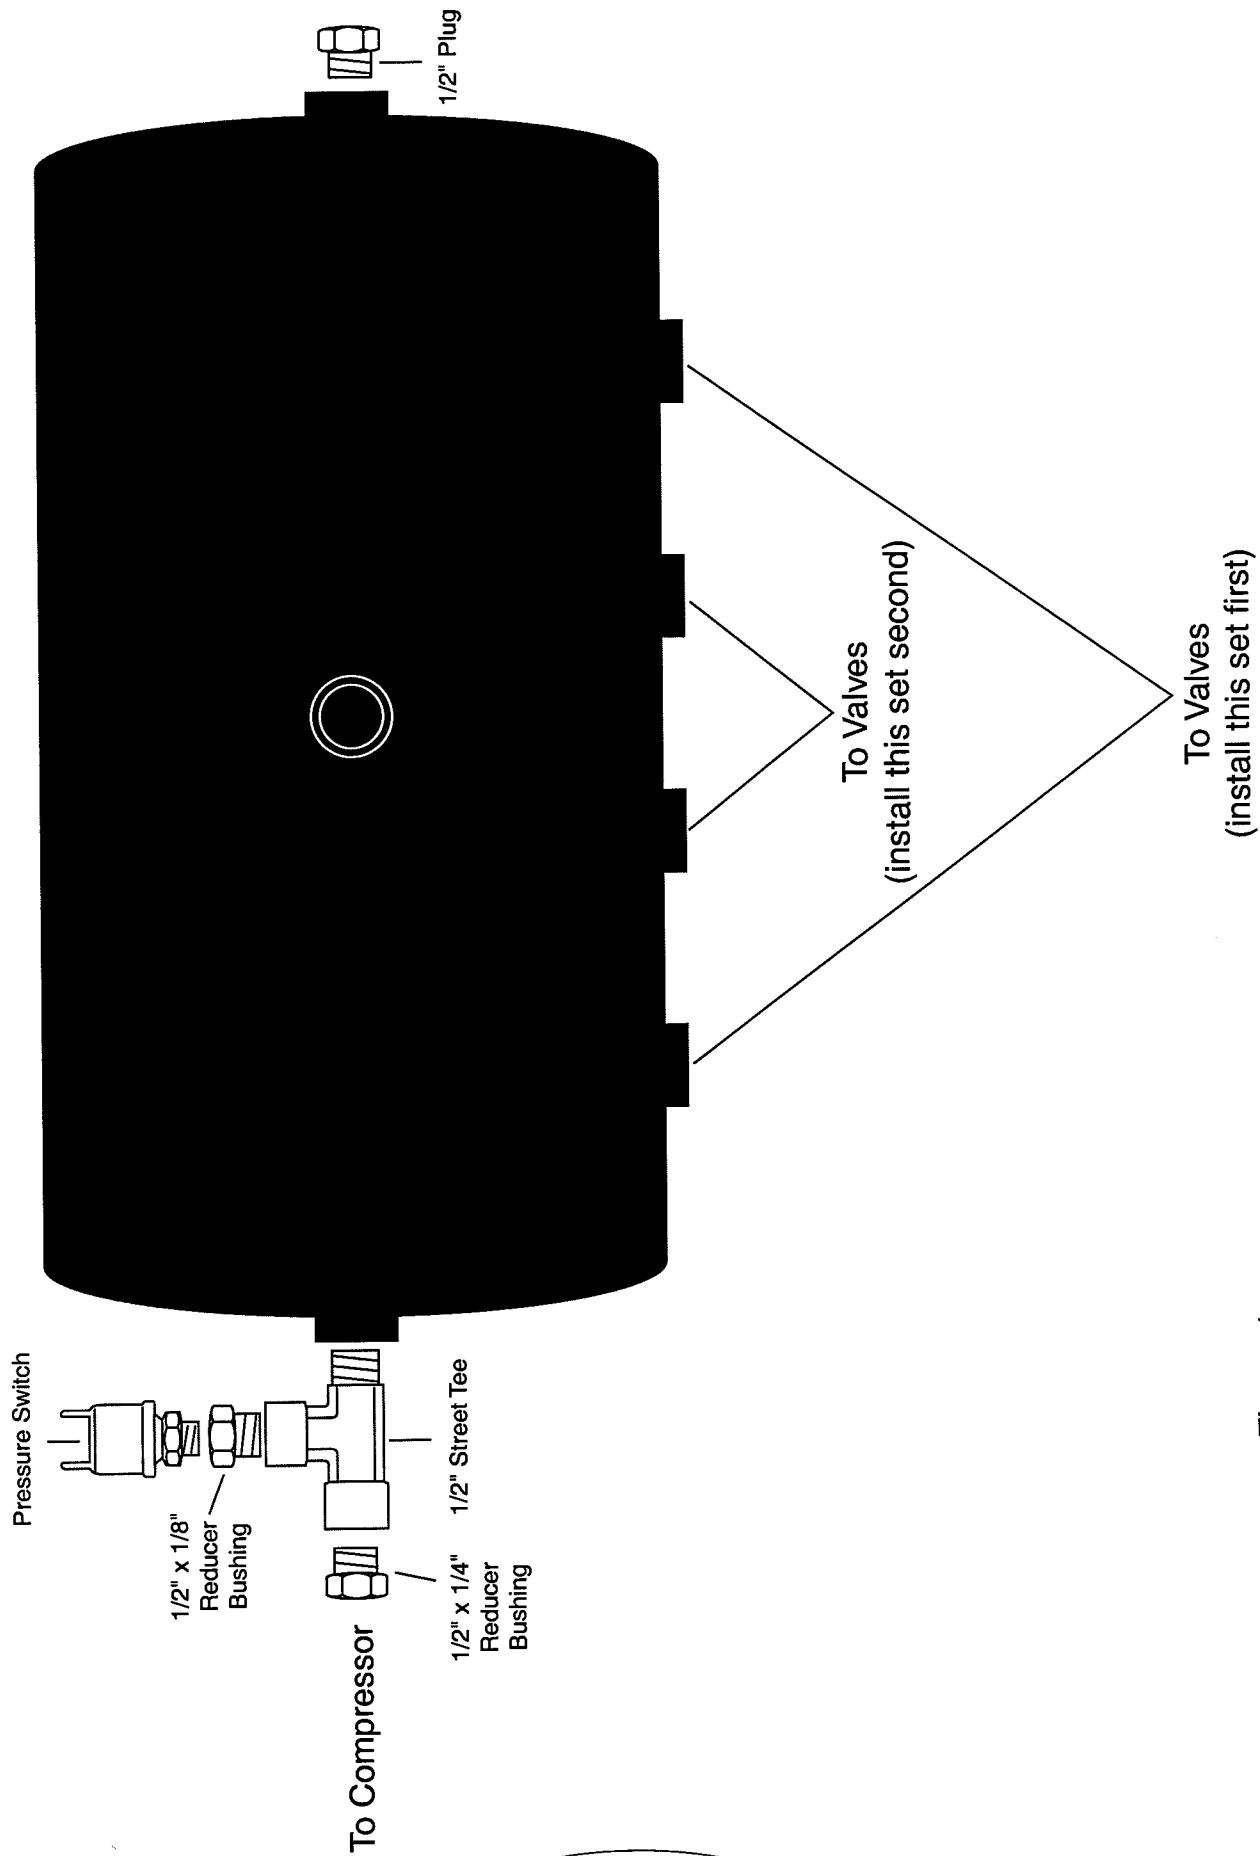
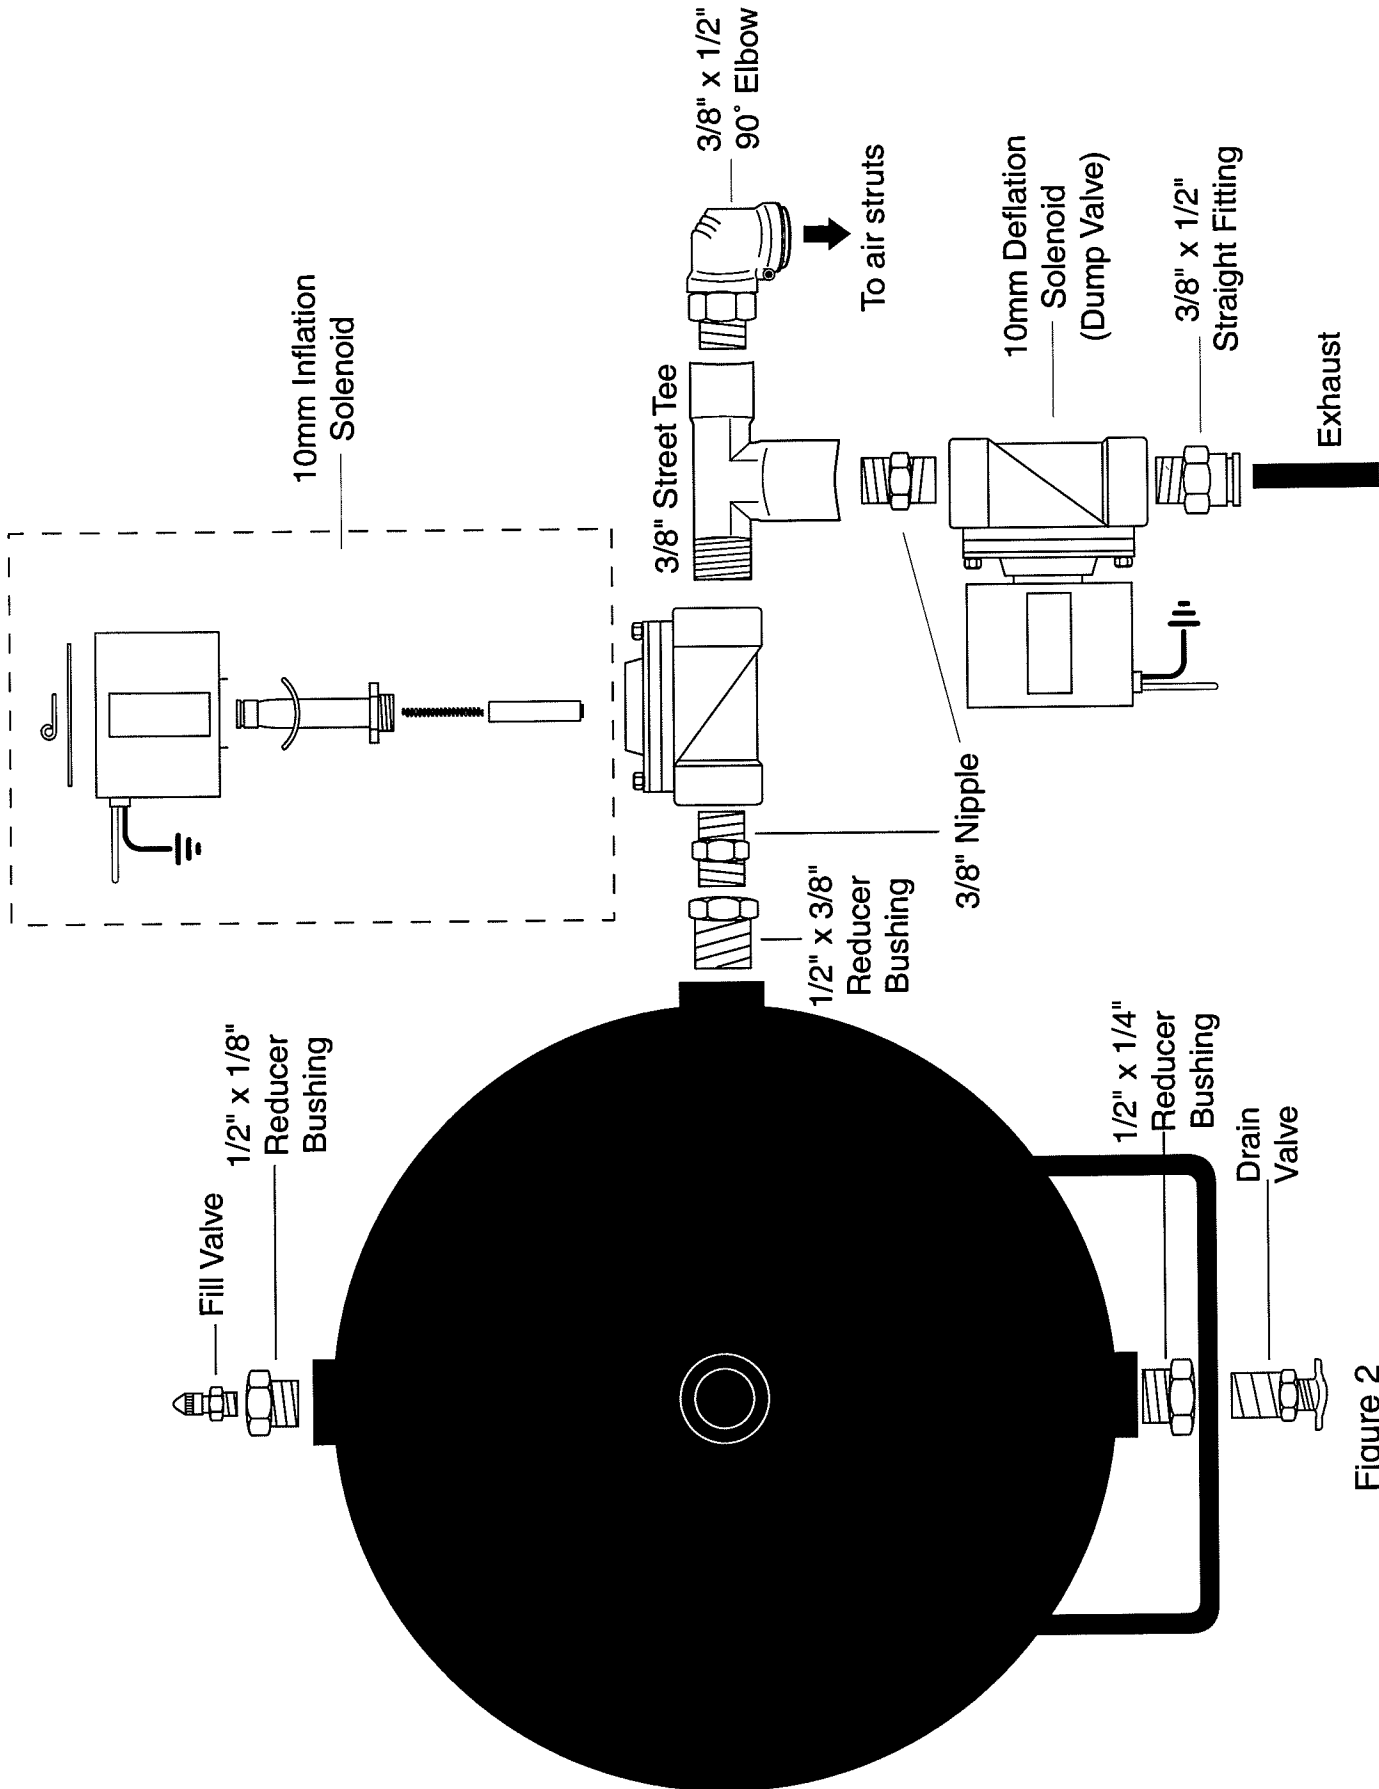

Figure 1
Figure 2
- The solenoid valves will mount to the air tank. Refer to the schematic in Figure 1 to determine the correct sequences of valves.
1. Install a $\frac{1}{2}$ " x $\frac{1}{8}$ " bushing to the top of the air tank. Install the fill valve to the $\frac{1}{2}$ " x $\frac{1}{8}$ " bushing. (Figure 2).
2. Assemble a $\frac{1}{2}$ " x $\frac{1}{4}$ " bushing to the side of the street tee provided. Install the 145/175 p.s.i. pressure switch and a $\frac{3}{8}$ " to $\frac{1}{8}$ " reducer to the top of the tee. Install this assembly to the port on one end of the air tank (Figure 1).
3. Install the supplied plug to the other end of the air tank (Figure 1).
5. Attach a $\frac{1}{2}$ " x $\frac{3}{8}$ " reducer bushing to a $\frac{3}{8}$ " pipe nipple. Attach the 10mm fill valve to the nipple (Figure 2).
Attach a $\frac{3}{8}$ " nipple to the street tee facing down. Attach the dump valve with the "In" port facing the street tee. Attach a $\frac{3}{8}$ " x $\frac{1}{2}$ " tube fitting to the other side of the dump valve. Install a 2"-3" piece of $\frac{1}{2}$ " hose to this fitting. Attach a $\frac{3}{8}$ " x $\frac{1}{2}$ " tube 90° fitting to the last port on the street tee. This port goes to the air strut (Figure 2). Assemble the valve assemblies this way for the two outer most ports on the tank (Figure 1).
6. Attach the two assemblies to the outer ports on the air tank, leaving the two inside ports empty for the other assemblies (Figure 1).
7. Assemble the inner valve assemblies in the same manner as detailed above, but leave the $\frac{3}{8}$ " street tee and the dump valve off for now. In order to install the assemblies to the tank, the fill valves will need to be disassembled (Figure 2). Once the fill valve is taken apart, install the assemblies to the inner ports on the tank.